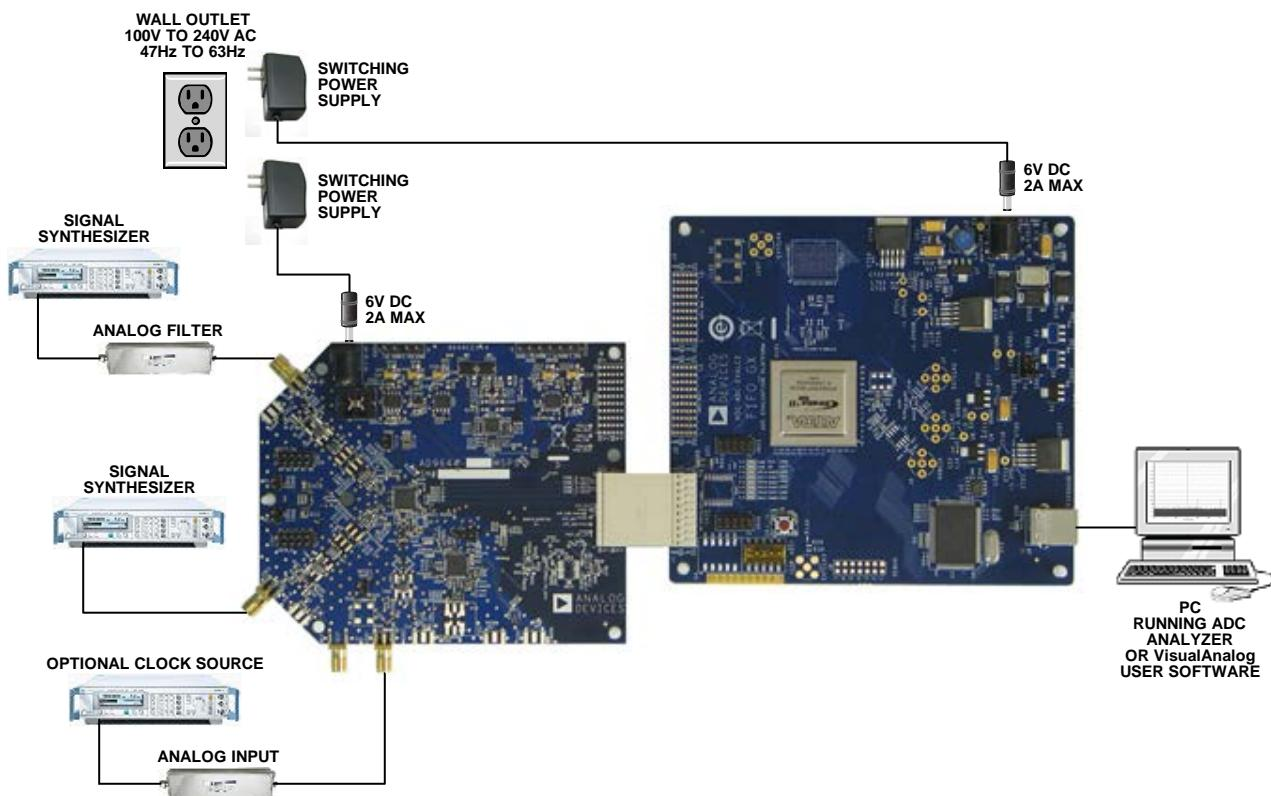

Figure 2. AD9644/AD9641 Evaluation Board Connection
The AD9644 and AD9641 evaluation boards provide all of the support circuitry required to operate the parts in various modes and configurations. Figure 2 shows the typical bench characterization setup used to evaluate the ac performance of the AD9644 or AD9641. It is critical that the signal sources used for the analog input and clock have very low phase noise (<1 ps rms jitter) to realize the optimum performance of the signal chain. Proper filtering of the analog input signal to remove harmonics and lower the integrated or broadband noise at the input is necessary to achieve the specified noise performance. The AD9644 evaluation board supports dual-channel operation for the AD9644. The AD9641 evaluation board supports single-channel operation for the AD9641.
1. Connect the AD9644 or AD9641 evaluation board to the FIFO-GX data capture board, as shown in Figure 1 and Figure 2.